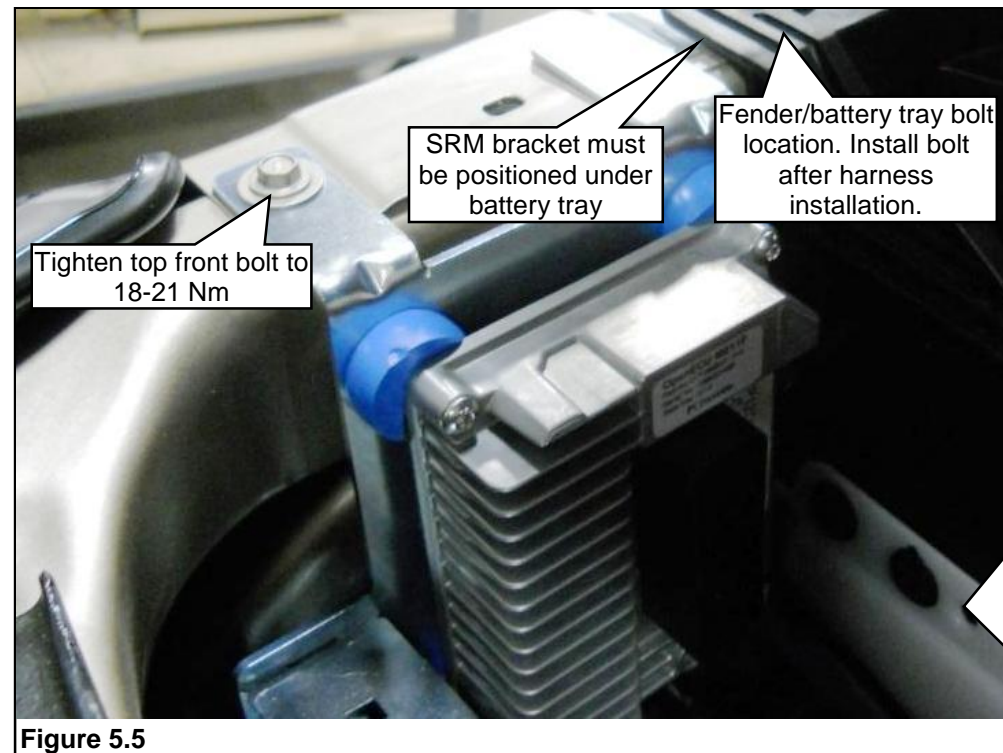

Figure 5.5
6. Install the upper front bolt through the SRM bracket and into the fender. Tighten the upper front fender bolt to specification. **Note:** Leave the battery tray bolt out until after the underhood electrical harness has been installed. Install the bolt when the battery tray is installed. **Figure 5.5.**